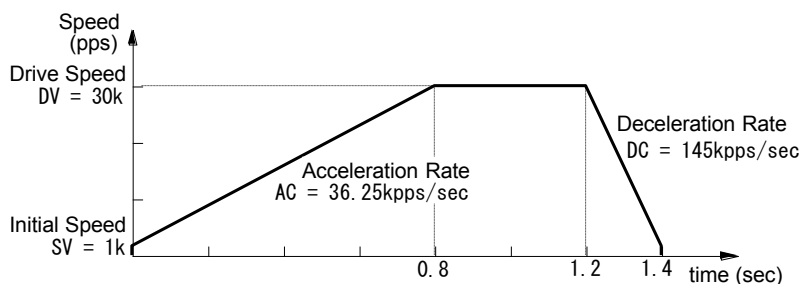
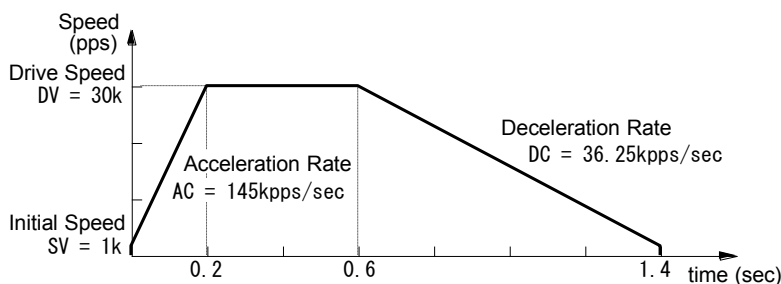

Fig. 2.2-6 Non-Symmetrical Linear Acceleration/Deceleration Driving (acceleration < deceleration)
Fig. 2.2-7 Non-Symmetrical Linear Acceleration/Deceleration Driving (acceleration > deceleration)
This IC can perform automatic deceleration in non-symmetrical linear acceleration/deceleration fixed pulse driving where acceleration and deceleration are different. It is not necessary to set a manual deceleration point by calculation in advance. Fig. 2.2-6 shows the case where the deceleration is greater than the acceleration and Fig. 2.2-7 shows the case where the acceleration is greater than the deceleration. In such non-symmetrical linear acceleration, the automatic deceleration start point is calculated by the IC based on the number of output pulses in fixed pulse driving and each rate parameter.
- In non-symmetry linear automatic acceleration/deceleration driving, when acceleration>deceleration (Fig. 2.2-7), the following condition is applied to the ratio of acceleration and deceleration. In this case, set drive speed 4Mpps or less.
- In non-symmetry linear automatic acceleration/deceleration driving, if acceleration > deceleration (Fig. 2.2-7), the greater the ratio of acceleration AC to deceleration DC becomes, the greater the number of creep pulses becomes (about maximum of 10 pulses when AC/DC=10 times). When creep pulses cause a problem, solve the problem by increasing the initial speed or setting a minus value to the acceleration counter offset.
As shown in Fig. 2.2-6, parameter setting of relative position driving in non-symmetrical linear automatic acceleration/ deceleration (acceleration<deceleration) is shown below.